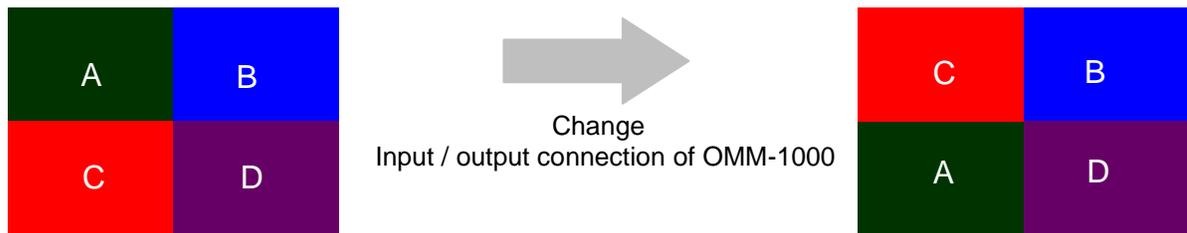

Fig 4-8 Changing widow position of layout
2. To change position of window in layout 5, 6 and 7, user must change the order of input to QDVI-O. For example, If the QDVI-O is in output slot 2, to change window position of layout 5 as shown in Fig 4-8, user must change input output connection.
In Fig 4-8, Video source A is output 5 of OMM-1000 and it is also the 1st input to QDVI-O and source C is output 7 of OMM-1000 and the 3rd input of QDVI-O. To change A and C, user makes source A be connected to output 7 of OMM-1000 (It will be the 3rd input of QDVI-O) then, source A will be shown on the bottom left side of layout 5. As the same method, if user allocate source C to output 5 of OMM-1000, it will be shown on the top left side.